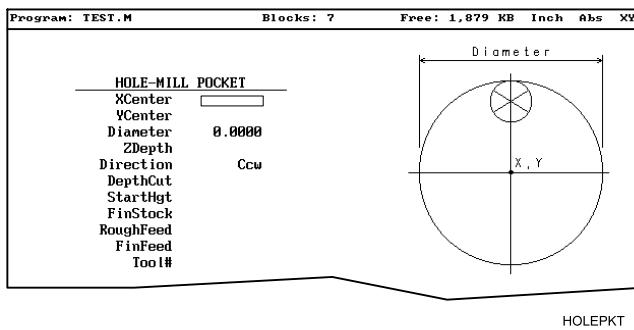

Figure 4-19, HOLE-MILL Pocket Graphic Menu
2. Highlight **Hole** and press **ENTER** to display the **HOLE-MILL POCKET** Graphic Menu. Refer to **Figure 4-19**.